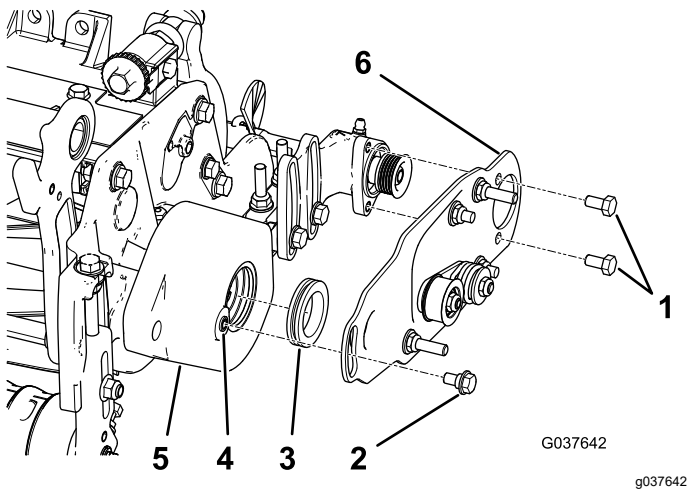

Figure 11
2. Apply a coating of grease to the inner diameter of the grommet in the roller-brush housing (Figure 11).
3. Install the left or right roller-brush plate (Figure 11).
4. Apply thread-locking compound to the 2 bolts (5/16 x 1/2 inch) and use them to mount the brush plate to the roller-brush bearing housing (Figure 11).
5. Clean out any paint from the threads in the roller-brush housing, using a 5/16–18 tap, before screwing in the shoulder bolt (Figure 11).
6. Apply thread-locking compound to the shoulder bolt (Figure 11).
7. Secure the brush plate to the roller-brush housing with the shoulder bolt (Figure 11).